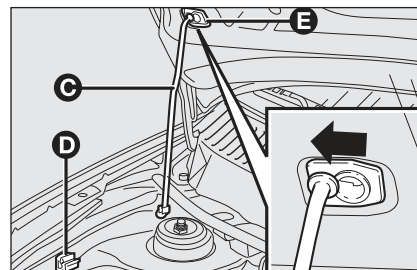

fig. 83
- lift the bonnet and at the same time release the rod **C-fig. 83** from the catch **D-fig. 83**, then fit the rod end into the bonnet recess **E-fig. 83** (wide hole) and then press down to safety position (small hole), as shown in the figure.
- hold the bonnet up with one hand and with the other remove rod **C-fig. 83** from recess **D**, with reverse movement with respect to opening, and fit it back into its catch;